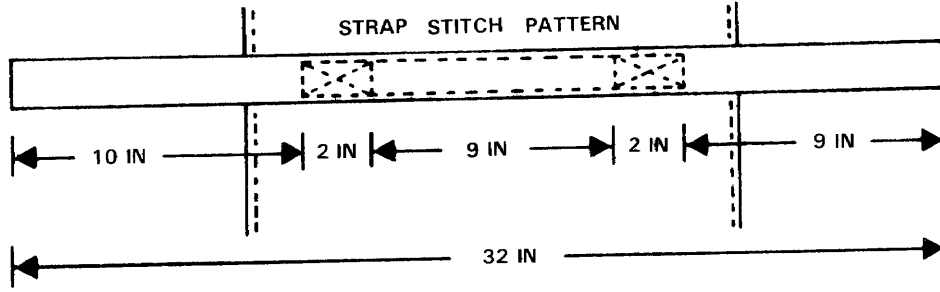
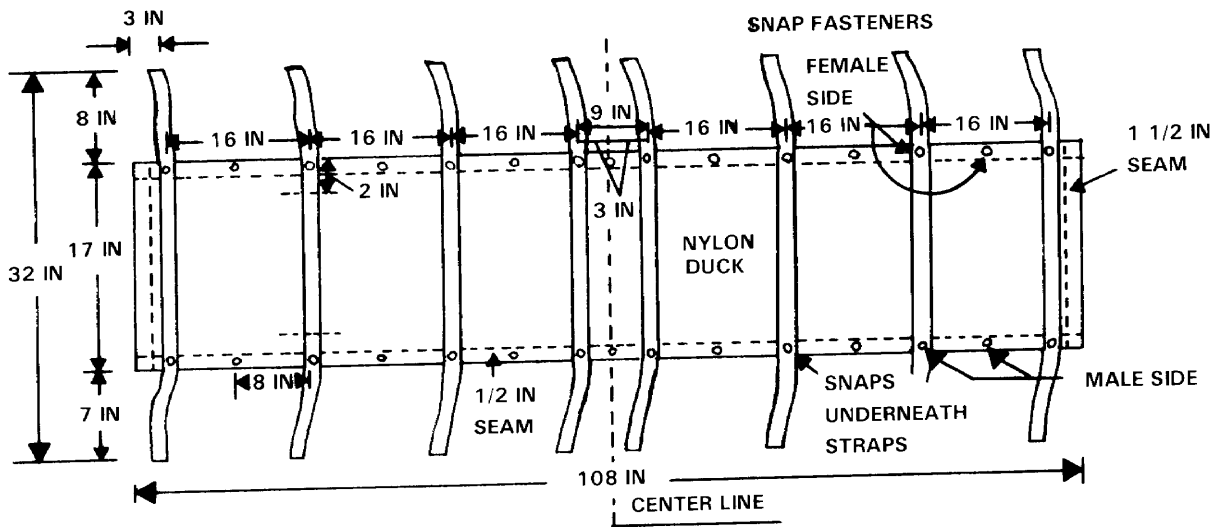
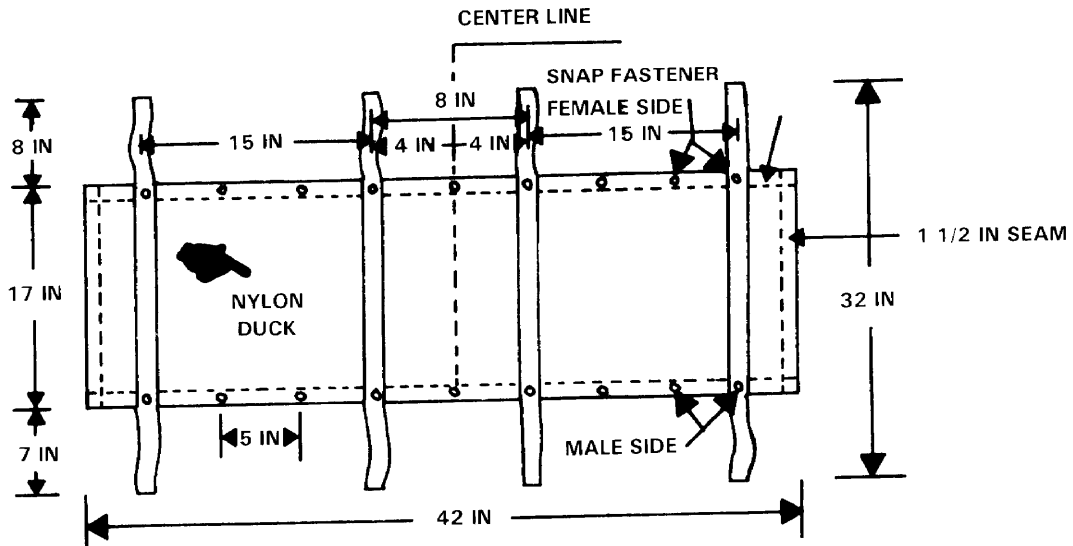
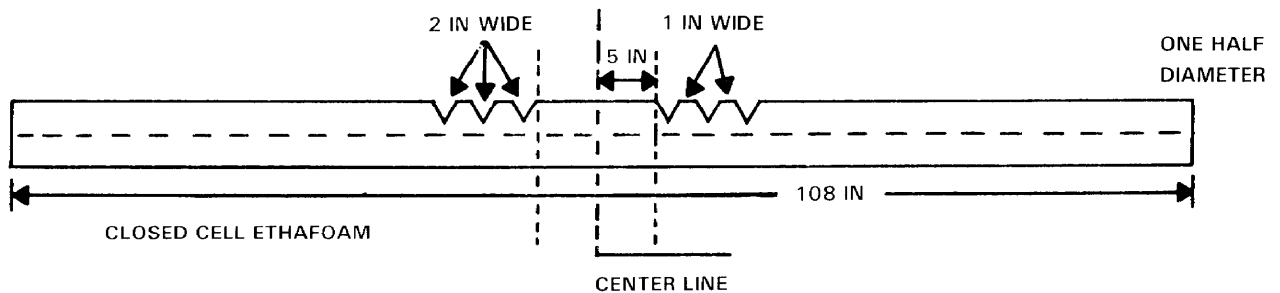

Figure I-6. Stitch pattern.
Figure I-7. Sew nylon webbing on long sleeve.
Figure I-8. Sew nylon webbing on short sleeve.
Figure I-9. Five-inch diameter Ethafoam—108 inches long.
(7) Using the strap stitch pattern shown in Figure I-6, sew lengths of nylon webbing onto nylon duck (Figure I-7) for the long sleeve, and as shown in Figure I-8 for the short sleeve.
(8) Install snap fasteners as shown in Figures I-7 and I-8. Ensure snaps do not interfere with ties.
(9) Sew the circular end pieces to the inside of sleeve ends. Stitching follows the tab contours. Sew two rows of reinforcing stitching through all tabs. Where sleeve sides overlap at the end caps, sew several rows of reinforcing stitching.
(10) Cut one length of 5-inch diameter Ethafoam to 108 inches. Measure and cut wedges as shown in Figure I-9.